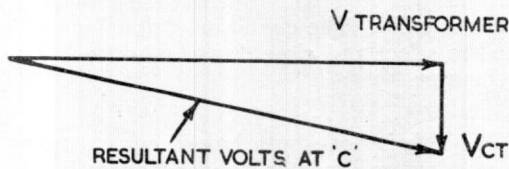

Fig. 8. Effect of reactive load
40. As can be seen from the vector diagram (fig. 8), an increase in reactive load will not materially affect the output voltage of the single-phase transformer and hence will not operate the magnetic amplifier.